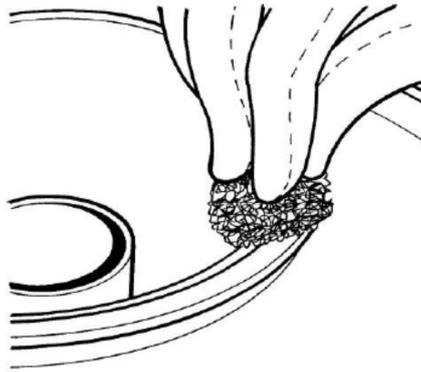

Fig. 17
5. Clean really carefully the tank's neck, place the *multifunctional valve* taking care that the tube enter in the central hole (Fig. 17).